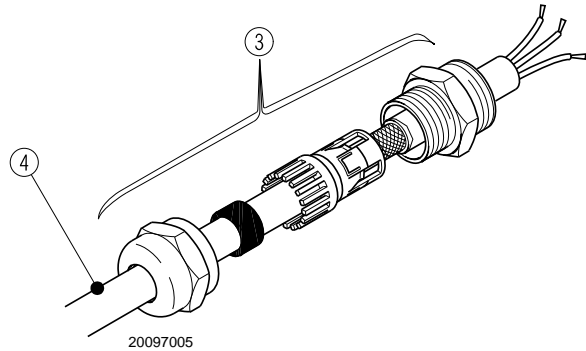

Fig. 35
- Shield the cable 4) running from the VSD (inverter), as shown in Fig. 35 and using the coupling 3).